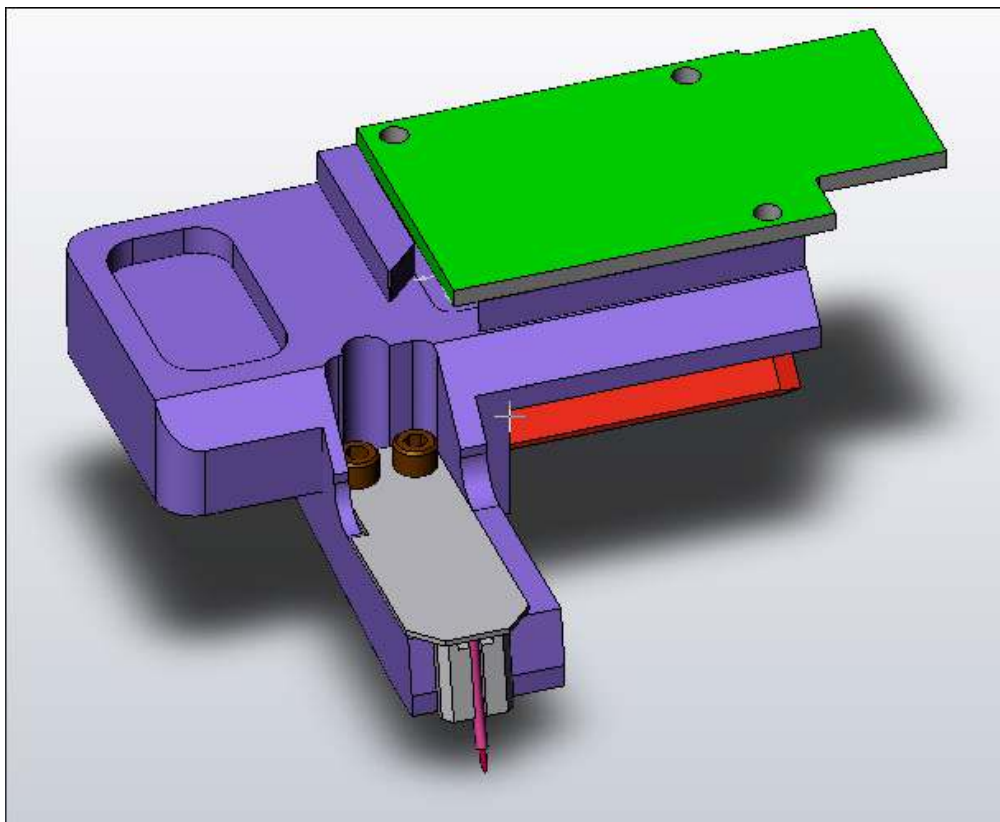

Figure 12.1.: Cypher STM tip holder. Note the probe tip sticking from the small tube.
- Cypher STM tip holder (See Figure 12.1 on page 118)